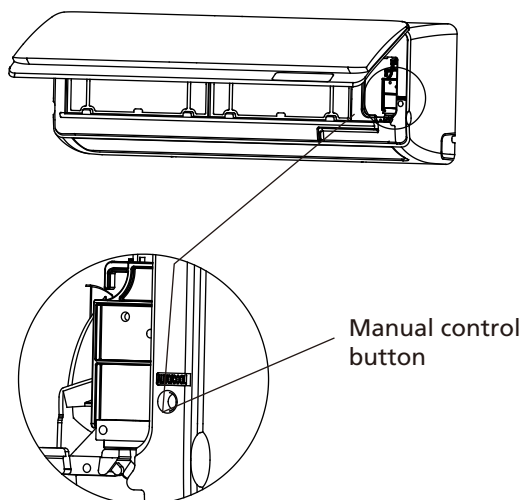

Fig. 8.1
2. The **MANUAL CONTROL** button is located on the right-hand side of the unit. Press it 2 times to select the COOL function. See **Fig 8.1**.